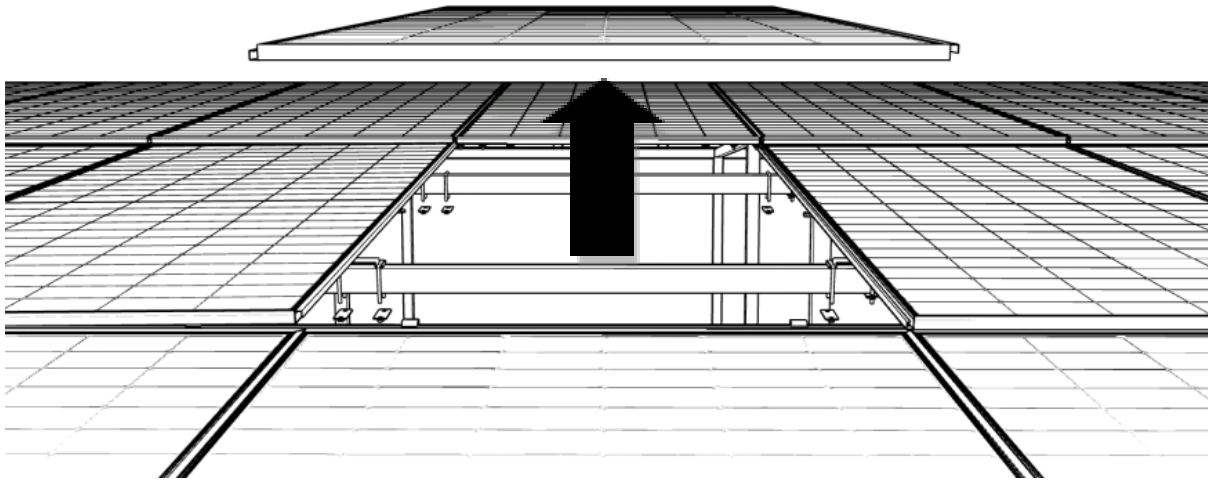

FIGURE 38
- Lift up the target product and remove the whole product. (Figure 38)